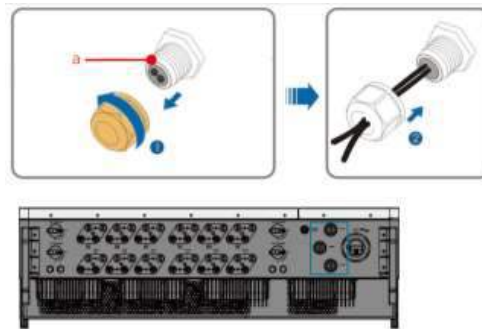

Fig. 4-46 Lead the cable through the swivel nut
- 2) Loosen the swivel nut of the communication terminal and select an appropriate seal according to cable outer diameter (5 - 8 mm). Lead the cable through the swivel nut and seal successively (Fig. 4-46).